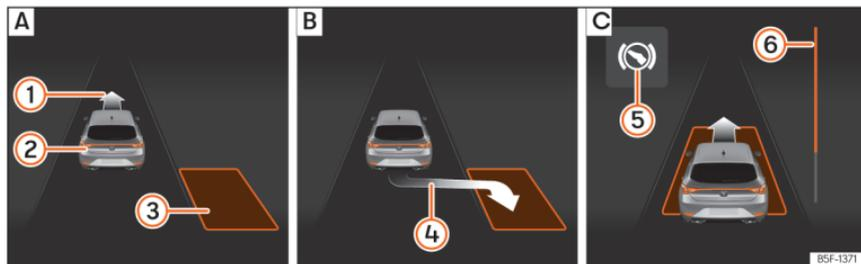
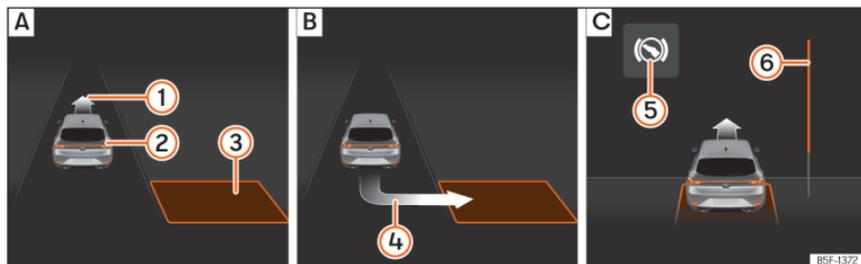

Fig. 199 On the instrument panel display: parallel parking. **A** Finding a parking space. **B** Parking position. **C** Manoeuvring.
Fig. 200 On the instrument panel display: angle parking. **A** Finding a parking space. **B** Parking position. **C** Manoeuvring.
- Look at the display on the instrument panel to see if the space has been detected as “appropriate” and if the correct position for parking has been reached »» Fig. 199 **B** or »» Fig. 200 **B**. The space is considered
- Reverse until the continuous ParkPilot signal sounds; **OR:** reverse until the indication to move forward appears on the instrument panel display »» Fig. 199 [C] or »» Fig. 200 [C]; **OR:** reverse until the **Park Assist finished** message appears on the instrument panel display. The progress bar ⑥ indicates the distance to cover »» page 282.
- Press the brake pedal until the parking assist system completes the steering wheel turns; **OR:** until the symbol ④ goes out on the instrument panel screen.
- Move forward until the continuous ParkPilot signal sounds; **OR:** move forward until the reverse indication appears on the instrument panel display. The Park Assist system steers the vehicle forward and back until it centres it in the space »» Fig. 199 [C] or »» Fig. 200 [C].
»» Fig. 199 ⑥ and »» Fig. 200 ⑥ on the screen of the instrument panel displays the relative distance to be covered. The greater the distance, the fuller the progress bar.